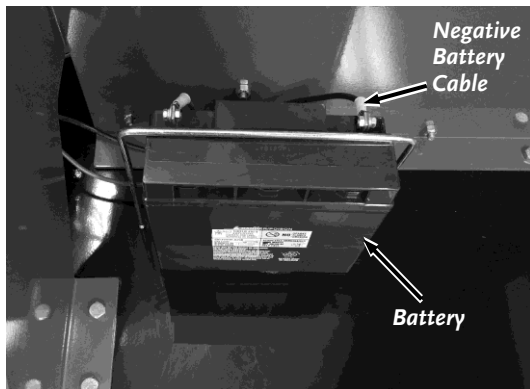

Figure 24
2. Disconnect the negative terminal at the Battery (**Figure 24**).